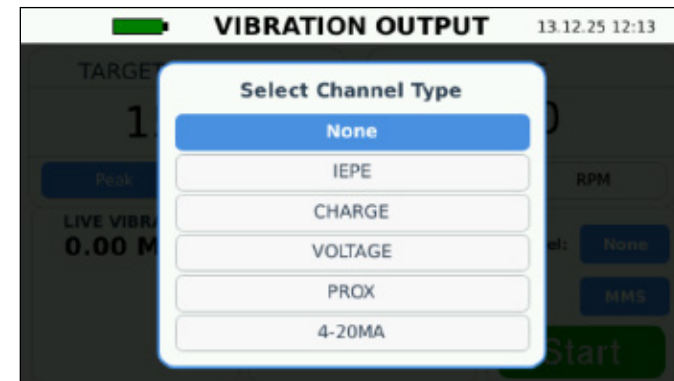

Figure 9
3. Select the **Channel button** to choose the input channel (Figure 9):